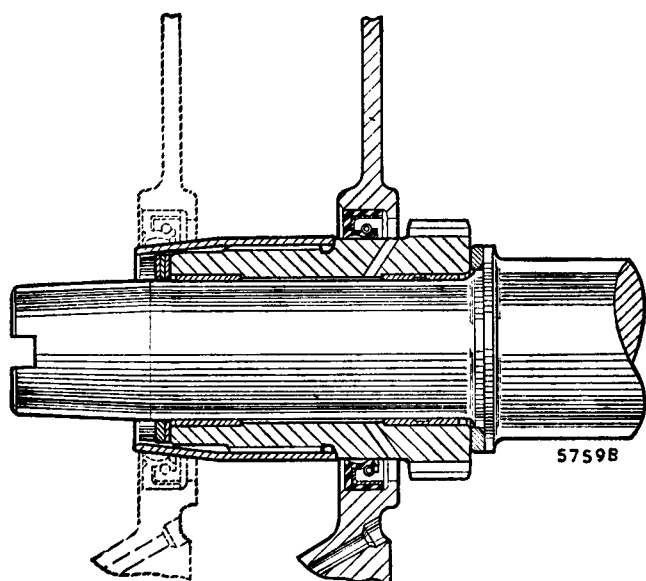

Fig. A.15
4. When withdrawing the housing and to avoid damage to the oil seal use Service tool 18G 570, or 18G 1043 if a red silicon rubber oil seal is fitted (Fig. A.15).